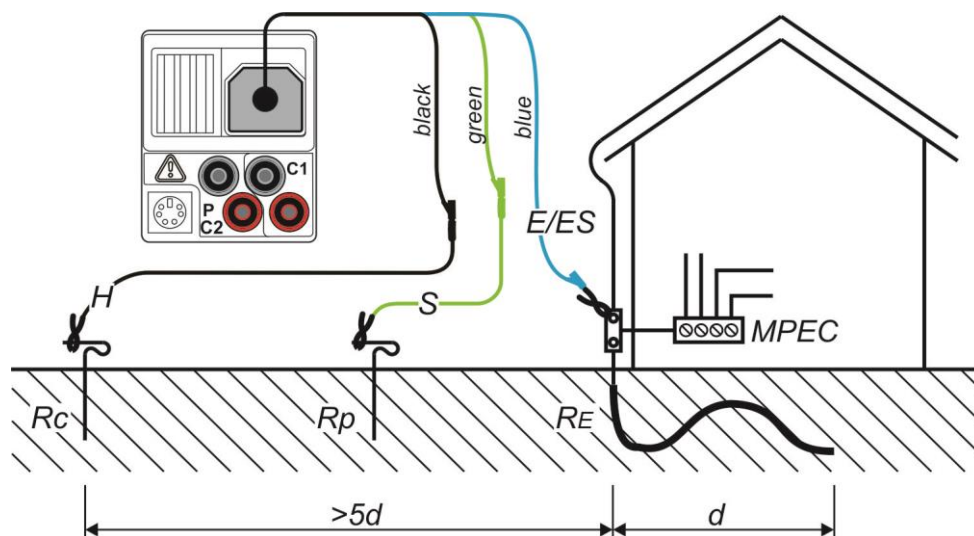

Figure 5.33: Resistance to earth, measurement of main installation earthing
- ❑ **Connect** the item to be tested (see figures 5.33, 5.34).